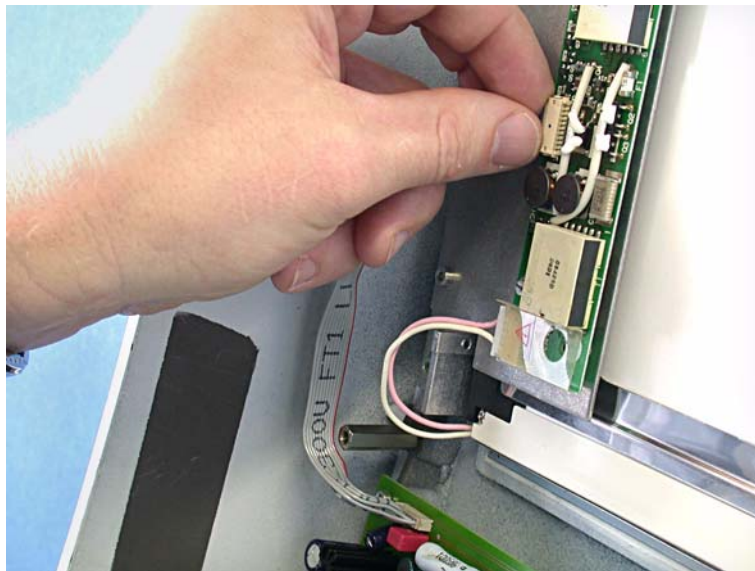

Figure 11-139. Unplugging the interface board cable from the dc/ac board
6. Unplug from the dc/ac board, the cable to the interface board.(Figure 11-139.)